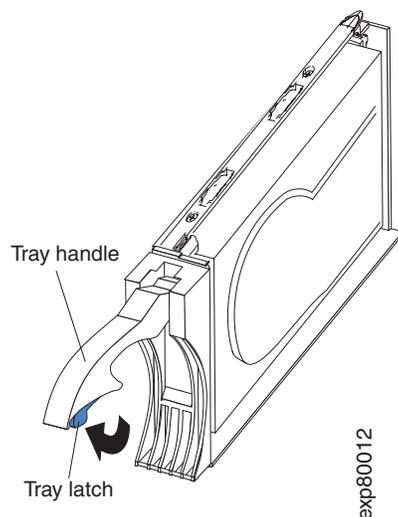

Figure 103. E-DDM CRU handle
- b. Pull the handle on the tray out so that it is in the open position, as shown in Figure 103.
- a. Release the latch on the E-DDM CRU by pressing on the inside of the bottom of the tray handle, as shown by the arrow in Figure 103 on page 146.